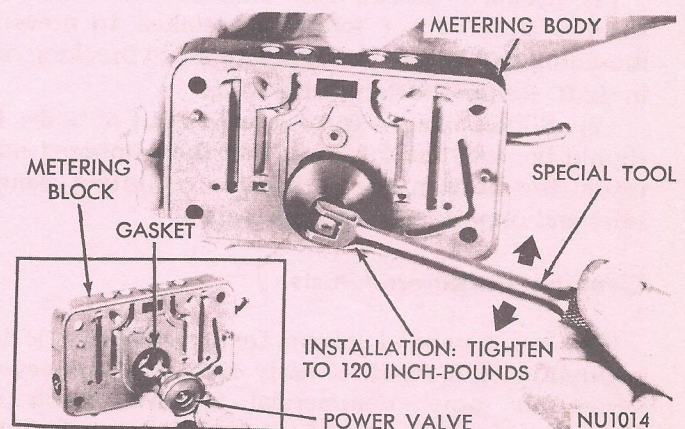

Fig. 15—Removing or Installing Power Valve
(1) Using Tool C-3747, remove power valve assembly from metering body (Fig. 15).